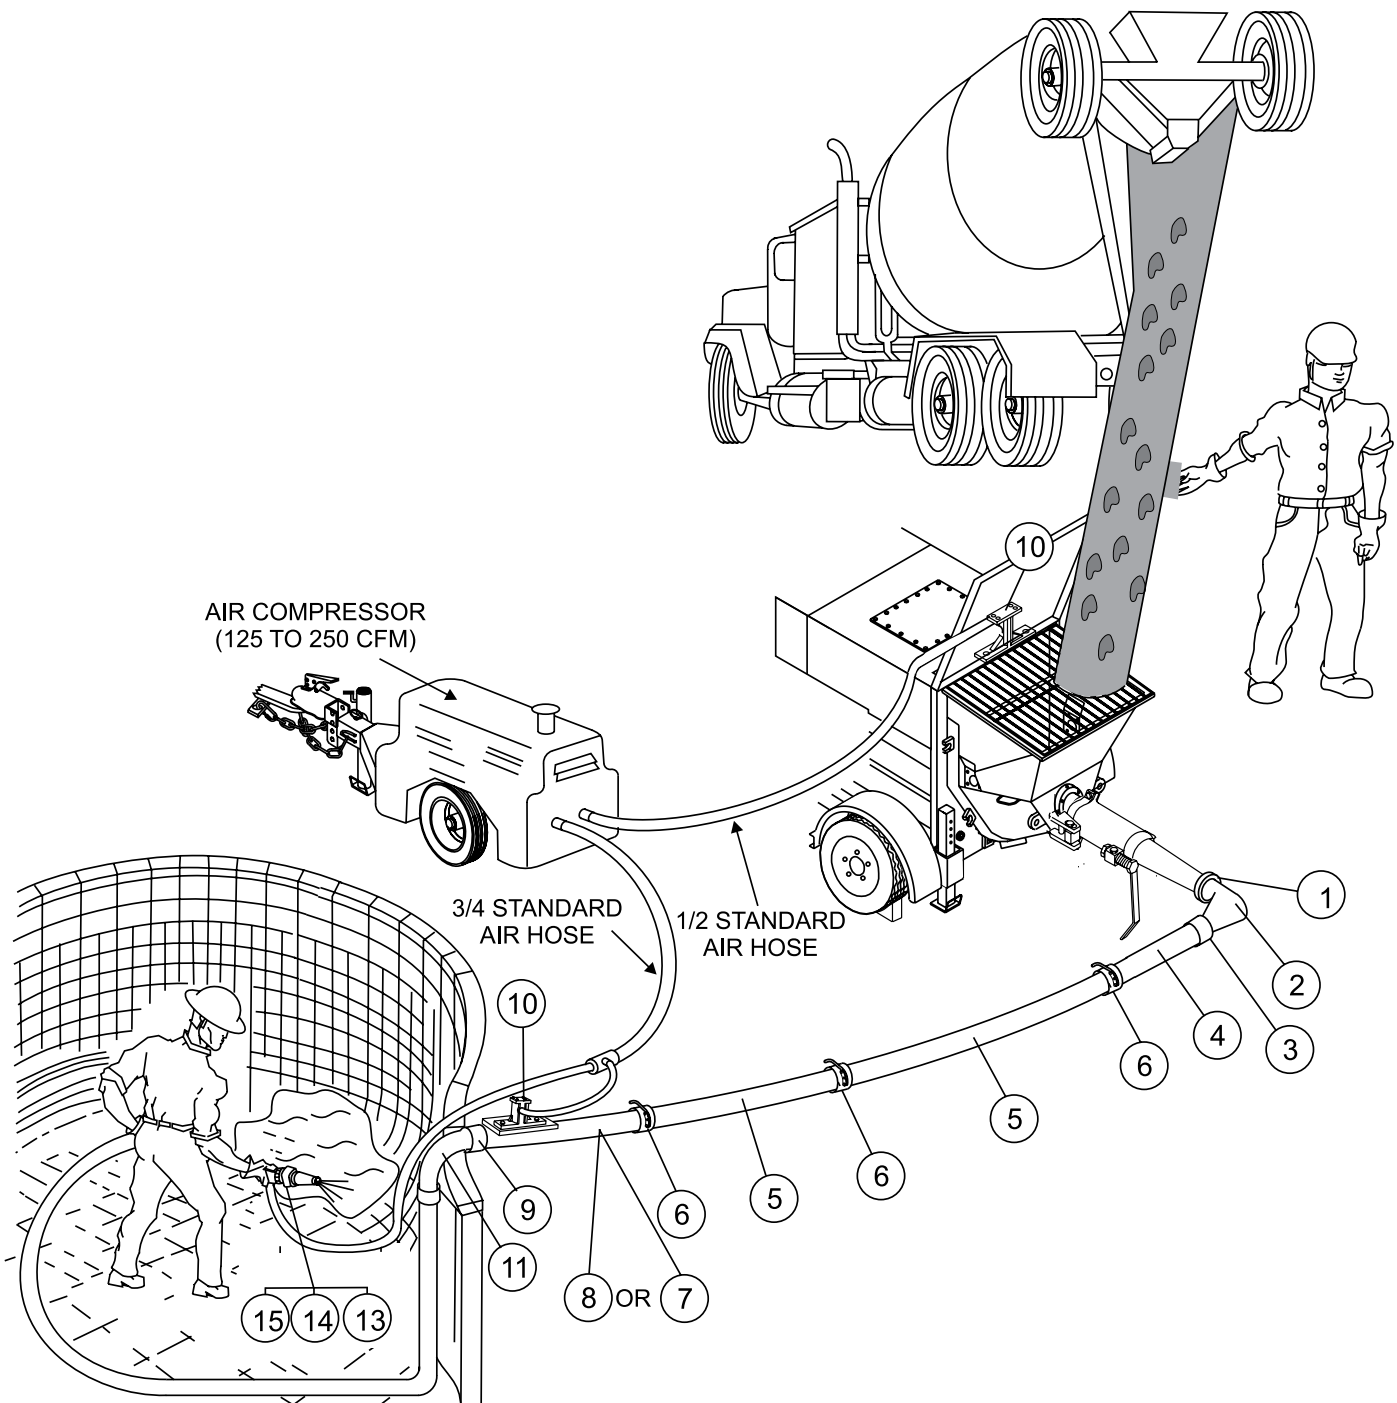

Figure 55. Recommended Shotcrete System
3. Fill the cone 1/3 full by volume (Figure 55-A) and rod 25 times with a 1/2" dia x 24" lg. bullet-pointed steel rod. (This is a specific requirement which will produce non-standard results unless followed exactly.) Distribute rodding evenly over the entire cross section of the sample.
4. Fill cone another 1/3 (Figure 55-B) which will make the cone 2/3 full by volume. Rod this second layer 25 times with the rod penetrating into, but not through, the first layer. Distribute rodding evenly over the entire cross section of the layer.
5. Fill cone to overflowing (Figure 55-C). Rod this layer 25 times with rod penetrating into but not through, the second layer. Distribute rodding evenly over the entire cross section of this layer.
6. Remove the excess concrete (Figure 55-D) from the top of the cone, using the tamping rod as a screed.
7. Lift the cone vertically (Figure 55-E) with a slow even motion. **DO NOT** jar the concrete or tilt the cone during this process. (Invert the withdrawn cone, and place it next to, but not touching the slumped concrete.
8. Lay a straight edge (Figure 55-F) across the top of the slumped cone. Measure the amount of slump in inches from the bottom of the straight edge to the top of the slumped concrete at a point over the original center of the base . The slump operation must be complete in a maximum elapsed time of 1-1/2 minutes. Discard the concrete. **DO NOT** use it in another tests.